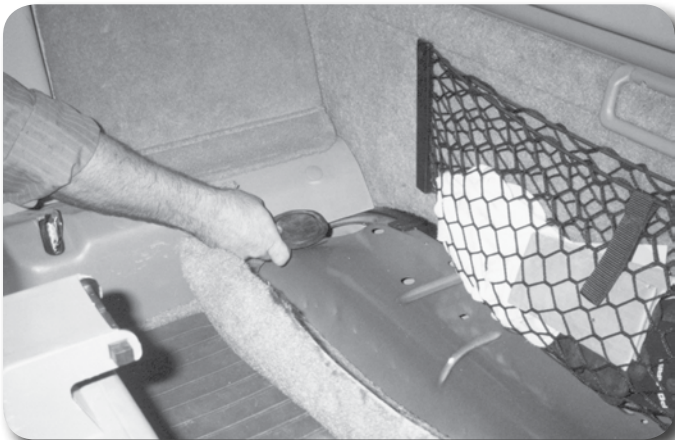

Figure 2
5. Pull carpet back at the rear cab corners to reveal rear cab mounting access holes **Figure 2**. Plastic body panels do not have to be removed. This is the same for regular and extended cabs.